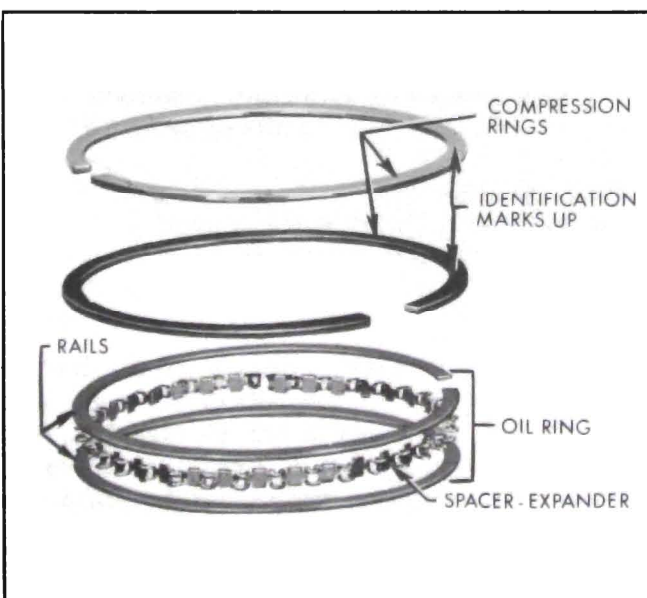

Figure 2-51—Piston Rings
7. Remove compression rings with expander and remove oil ring by removing the two rails, and spacer - expander which are separate pieces in each piston third groove. See Figure 2-51.
10. Install compression rings in top and center groove. See Figure 2-51.